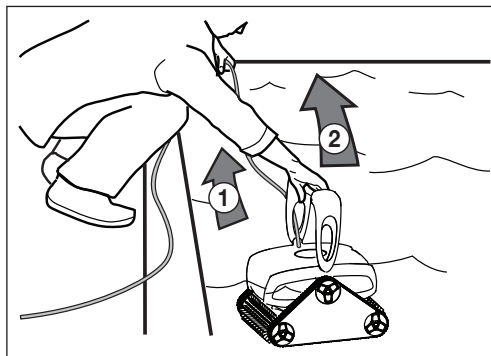

Figure 6. Lift Cleaner From Pool with Handle
2. When the cleaner is within arm's reach, use the handle to lift it from the water (Figure 6).